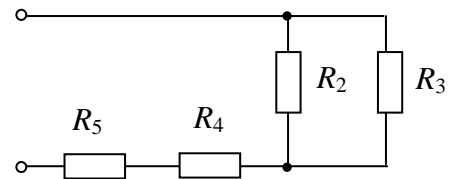

Fig.2.16
To calculate the current in a circle (fig. 2.16), if known the resistances of resistors R_2 , R_3 , R_4 , R_5 and the maximum power P_n allocated to the resistor R_n in the unforked circuit. To define total current, input voltage and subcircuits voltages, branches currents, power of the circuit and the powers of subcircuits. To write down the results to the table 2.2 item 1. Tasks variants are listed in the table 2.1.